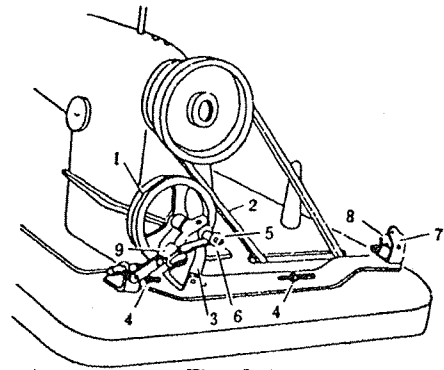

Fig. 3
After mounting the machine and belt, install the bobbin winder. Align bobbin winder pulley 1 with the outside of belt 2(see Fig. 3), have a suitable clearance between pulley and belt, and keep the winder pulley in close contact with
4.4. Winding bobbin thread (see Fig. 3)